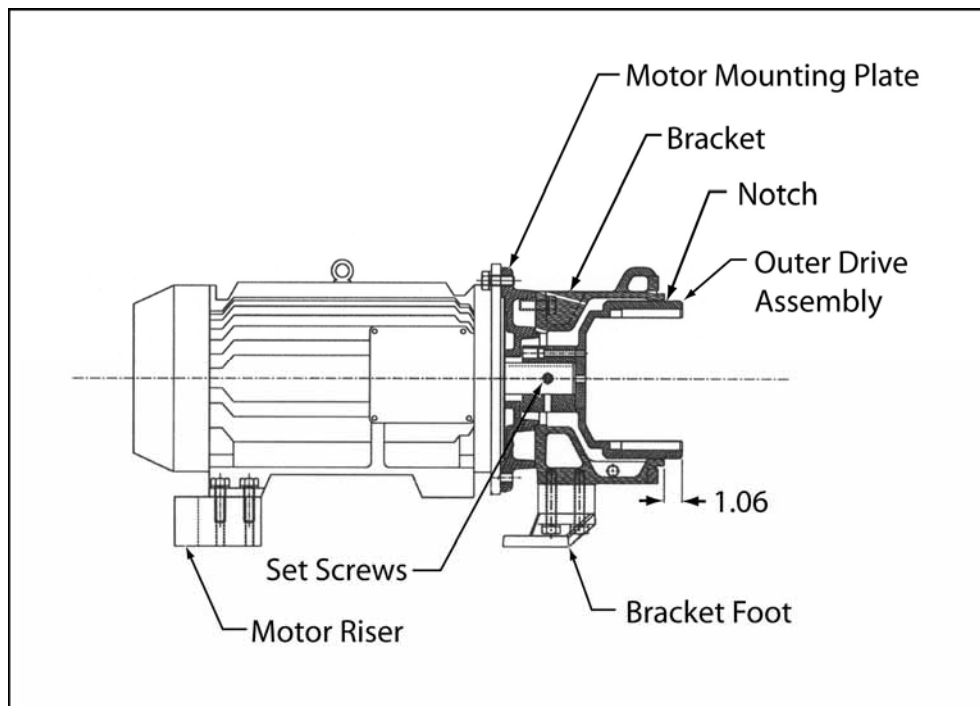
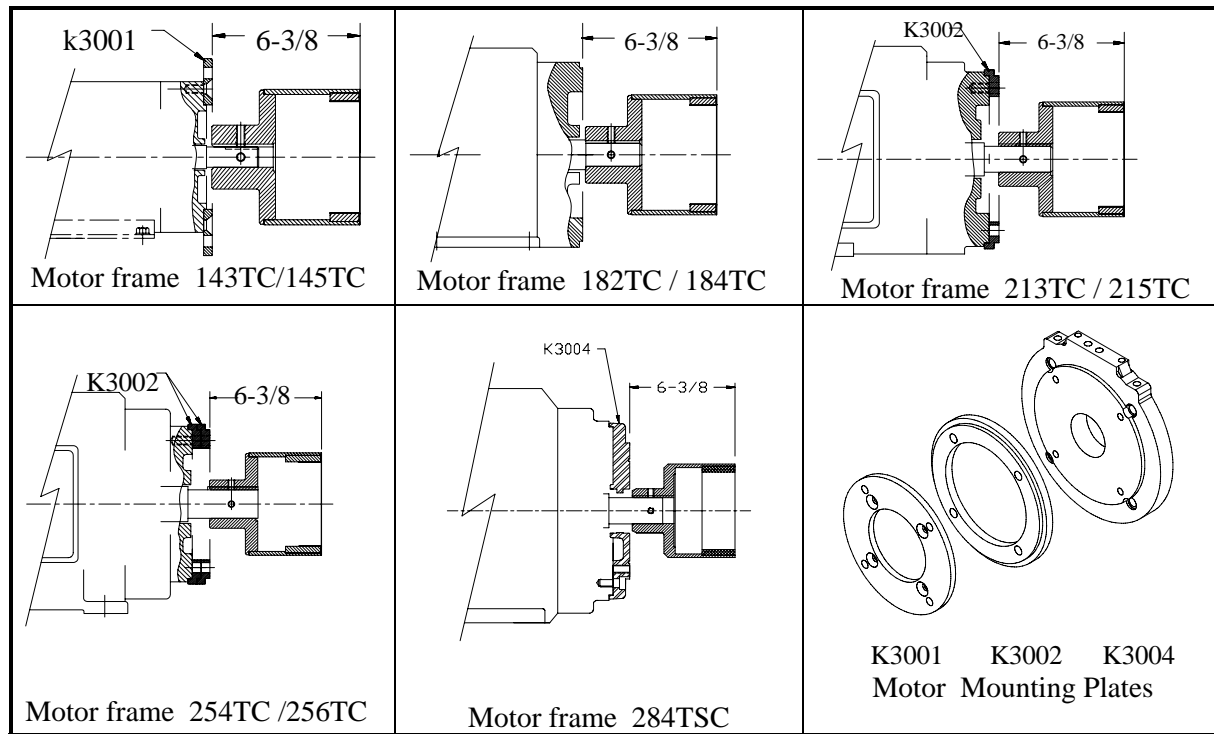
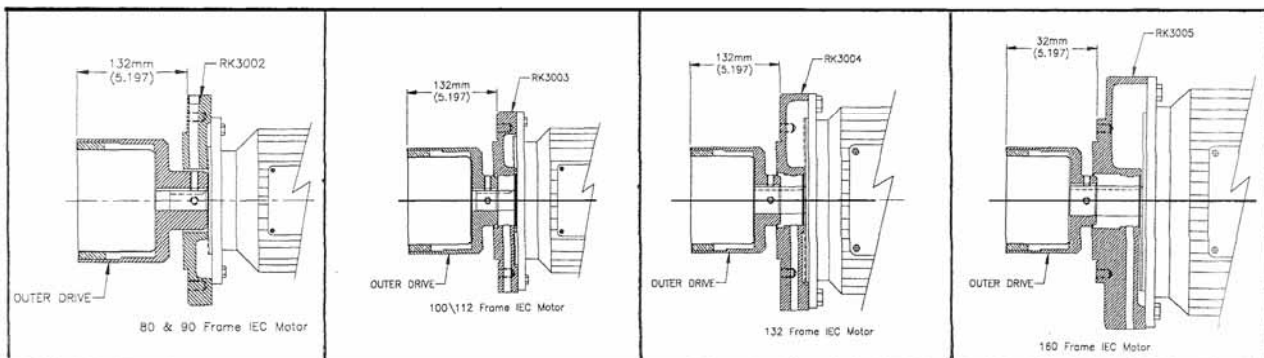

Fig. 9-1 Outer Drive Position with Respect to Bracket
Fig. 9-2: NEMA Outer Drive Mounting Positions (Reference)
Fig. 10-1: IEC Outer Drive Mounting Positions (Reference)
2. Place motor mounting plate(s), if required, onto the C-face of motor. Align the holes with the threaded holes on the motor. (On motor frames 143/145TC and 284TSC, the motor mounting plates bolt to the motor face holes.) See figure 9-1.
4. Back-out the two set screws on the hub of the outer drive magnet, and place the outer drive onto the motor shaft. Position the outer drive so that the groove in the outer drive lines up with the end of the bracket +1/16", -0" [+1.6 mm, -0 mm]. See Figure 9-1. Figure 9-2 shows the outer drive position with respect to the motor mounting plate for reference. Tighten the set screws to 10 ft-lb (13.6 N-m.) Install the 3/8" NPT pipe plug into the hole on top of the bracket or bearing frame. This is to keep dirt out of the motor shaft area.
2. Place the motor mounting plate on the motor flange. The motor mounting plate for 80 and 90 frame motors has the rectangular boss facing upwards. For the 100/112, 132 and 160 frame motors have the rectangular boss facing downwards. Bolt the motor mounting plate to the motor flange with the appropriate four bolts. See figure 10-1.
4. Back out both of the set screws on the outer drive hub so they do not protrude into the bore. Slide the outer drive onto the motor shaft making sure that the shaft key is in place. Position the outer drive so that the groove in the outer drive lines up with the end of the bracket +1/16", -0" (+1.6mm, -0mm.) Tighten the two set screws to 10 ft-lb (13.6 N-m.) See Figure 9-1. Figure 10-1 shows the outer drive position with respect to the motor mounting plate for reference. Install the 3/8" NPT pipe plug into the hole on top of the adapter plate. This is to keep dirt out of the motor shaft area.